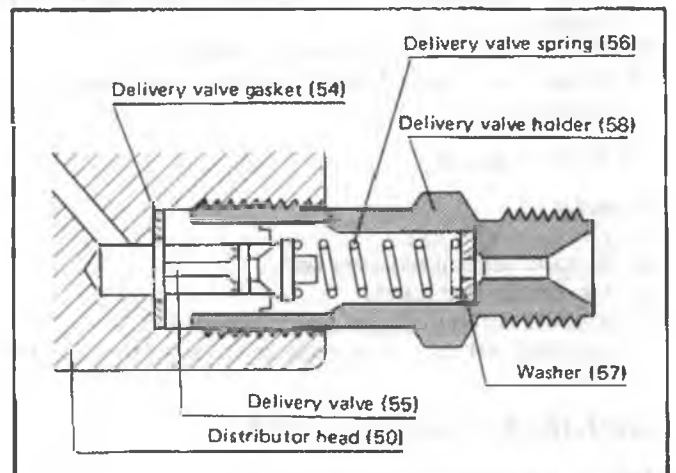

Fig. 4-28 Delivery Valve
1. Fit the delivery valve gasket (54), delivery valve assembly (55), delivery valve spring (56), washer (57) and delivery valve holder (58) to the distributor head assembly (Fig. 4-28).